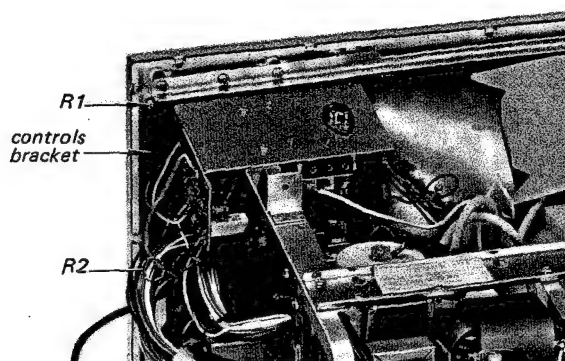

Fig. 2-23.
3. Remove the two screws labeled R1~2 in Fig. 2-23.